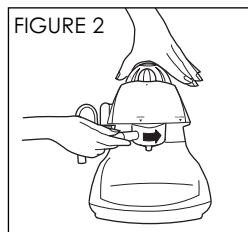

FIGURE 2
7. Position the Filter Holder beneath the brew head so that the handle is aligned with the OPEN arrow. Lift the Filter Holder upwards so that it fits evenly into the groove; then slide the handle to the right until it is positioned securely beneath the CLOSE arrow (see FIGURE 2).
1. Remove the Filter Basket from the Filter Holder then lock the Filter Holder into place as described in the "Brewing Espresso" section (see FIGURE 2).